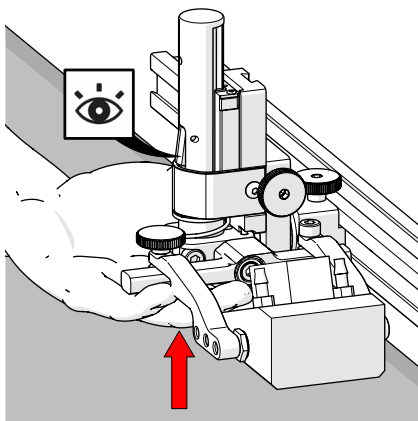
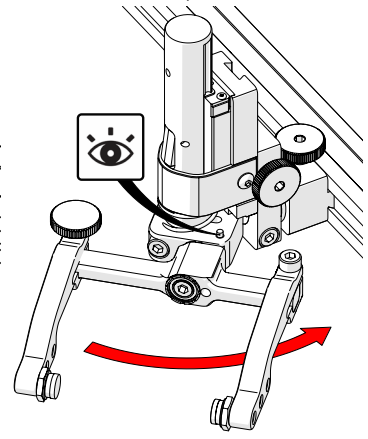

Fig. 128 - Latch probe holder
Fig. 134 - Stop post locates 90°
holder until the latch is fully exposed and snaps out to lock (Fig. 128).
1. Ensure the probe holder is in the latched upper position (Fig. 128).
To return the transverse adjustment to neutral (90°). The probe holder must be in the latched, upper position (*Fig. 128*). Rotate the yoke until the stop post contacts the base of the probe holder (*Fig. 134*). Then tighten the transverse adjustment screw.
1. Ensure the probe holder is in the latched upper position (*Fig. 128*).